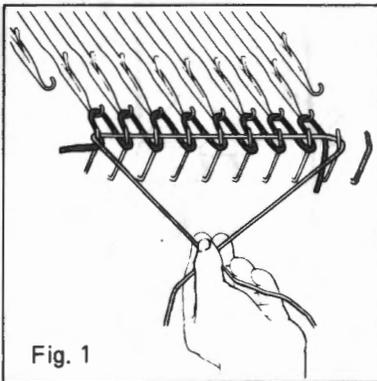

Fig. 1
* The Yarn Feeder is divided into two sections, ① and ②. In stockinet knitting, thread the Feeder ①.
- (1) Open the Yarn Feeder Gate, as shown, towards the left. (Fig. 1)
- (1) Set the Knitter as illustrated (Stitch Dial at 7), and thread the Yarn Feeder.
- (2) Move the Carriage from right to left. The yarn will be hooked alternately by the needles and Sinker Posts. If loops of the end 4–5 needles are formed smaller, correct them. manually.
- (3) Place the Ravel Cord across the knitted yarn between needles and Sinker Posts and hold the both ends. (Fig. 1)